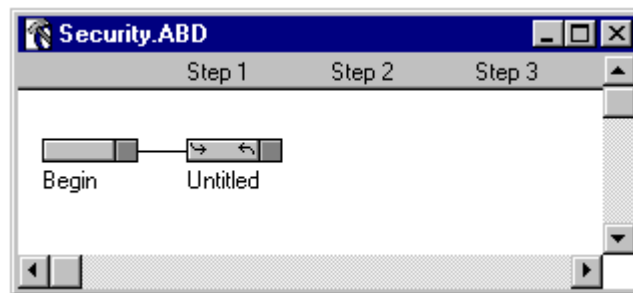

Figure 3-10 New Input Handler Added
9. An untitled Input Handler is added to the application (Figure 3-10).